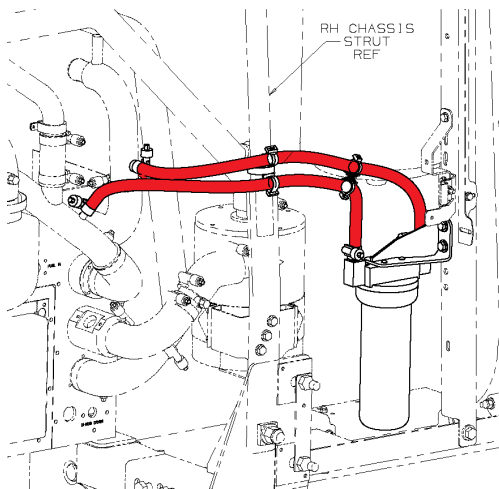

Figure 4A: Hose Routing Before Retrofit.
14. Re-route the coolant filter supply and return lines to run behind the curb side chassis strut. See Figure 4A & 4B. Re-orient the coolant hose attachment clip and use it to attach the supply and return lines to the HVAC drain line.